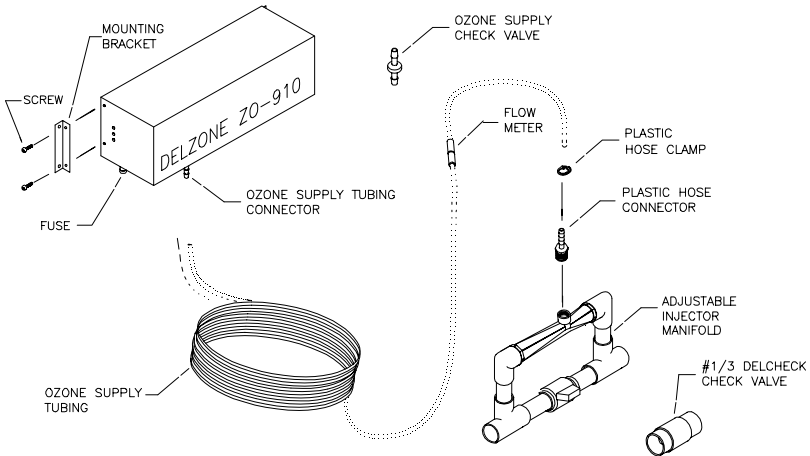
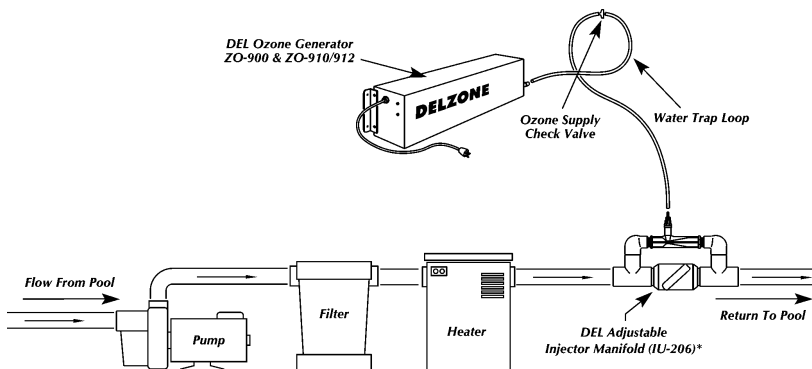
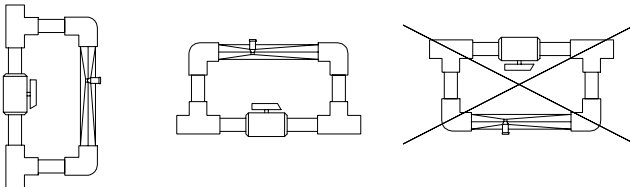
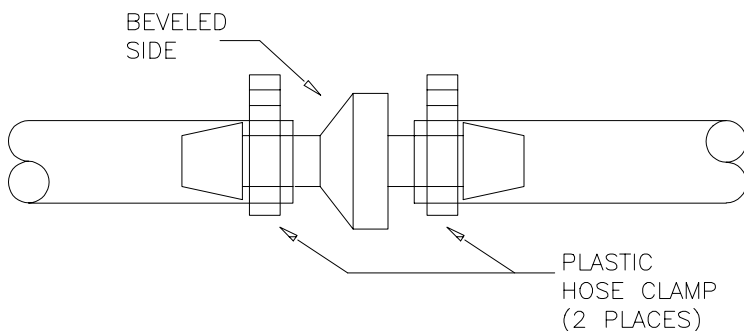

Figure 1: Ozone Generator and Parts
Figure 2: Installation Diagram
Figure 3: Injector Mounting Diagram
Figure 4: Check Valve
6. A pressure wire connector is provided on the outside of the unit to permit connection to a minimum No. 8 AWG (8.4 mm²) solid bonding conductor between this point and any metal equipment, metal enclosures of electrical equipment, metal water pipe, or conduit within five (5) feet (1.5m) of the unit as needed to comply with local requirements. Install at least 5 feet (1.5m) from the inside wall of the pool using non-metallic tubing.
7. The ZO-910/912 must be installed in an outdoor location, or indoors in a forced air ventilated room. Install so that the orientation is as shown in Figure 1. This will provide water drainage of the generator to protect electrical components.
Unpack the DELZONE unit and become familiar with it (Figure 1).
Attach mounting brackets to the ZO-910/912 with provided screws as shown on Figure 1. Find a suitable location to mount the ZO-910/912. It cannot be accessible to anyone inside the pool and must be mounted in an upright position as shown in Figure 2.
The ZO-910/912 should be mounted **above** the water line if possible. If this is not possible, the ozone supply tubing **must** be routed above the water line with a Hartford Loop (water trap; Figure 2) between the generator and the pool. In either case, the ozone supply check valve provided must be installed in the ozone supply tubing between the generator and the injector. See Figure 4 for further installation information on the ozone supply check valve.
Turn the handle on the injector manifold counter-clockwise all the way until the ball valve is wide open. Locate an appropriate section of the return line, hold the injector manifold against the pipe and mark the length. Subtract 2- 2/3" from the overall length. Mark this point, and cut out the section (about 12- 1/3"). Install the injector manifold with PVC cement. Be very careful to observe and follow the correct water flow direction (Figure 2). The injector manifold can be installed in either a vertical or horizontal position in the return line, but should **not** be installed with outlet facing down (Figure 3).
NOTE: If the pool equipment is located above the water level of the pool, you must install the clear PVC DELCheck™ 1/3# check valve as shown in Figure 2.
Locate the plastic hose connector, wrap 3 layers of teflon tape on the threads (do not use thread sealant), and install it hand tight into 1/2" female pipe thread fitting of the **DEL Adjustable Injector Manifold**. Tighten the plastic hose connector 1/2 turn with a wrench. Locate the flowmeter installed toward one end of the ozone supply tubing and secure this end of the tubing to the barb end of the plastic hose connector with a supplied plastic hose clamp as shown in Figure 1. Locate the ozone supply check valve and install it into ozone supply tubing by cutting tubing and securing it on the both ends of the check valve with plastic hose clamps as shown in Figure 4.
NOTE: Be sure the beveled side of the ozone supply check valve is pointing toward the direction of the injector (Figure 4).
To make a Hartford Loop, simply coil the tubing into a complete circle about 6" diameter (Figure 2), and fasten it above the water line. The Hartford Loop will act as a water trap to prevent water from running back to the generator in case the check valve fails. The supplied plastic check valve should be installed in the ozone supply tubing near the loop, between the generator and the loop, and secured with plastic hose clamps (Figure 2). *Be sure that the beveled side of the check valve points in the direction of the injector.* Your installation is now complete. The DELZONE ZO-910/912 will automatically inject ozone into the pool water to keep it clean and sanitized.